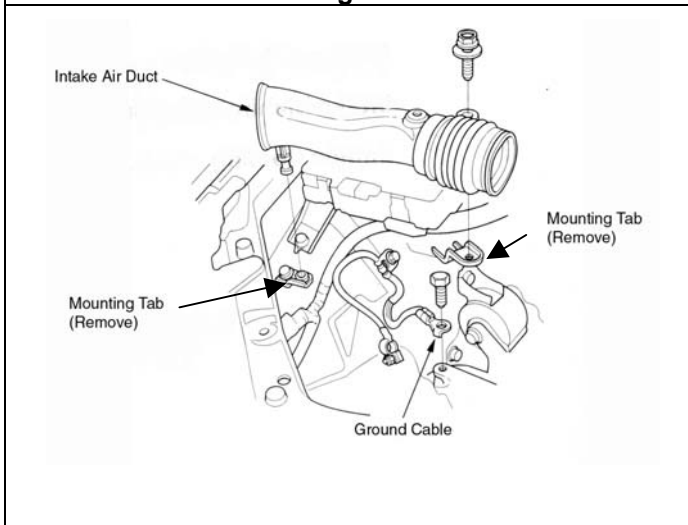

Fig. 3
- c) Remove the Intake Air Duct by loosening the bolt at one end and then pulling the other end up out of the mounting tab. **(Fig. 3)**
- d) Remove the two Intake Air Duct mounting tabs from the fenderwell. **(Fig.3)**